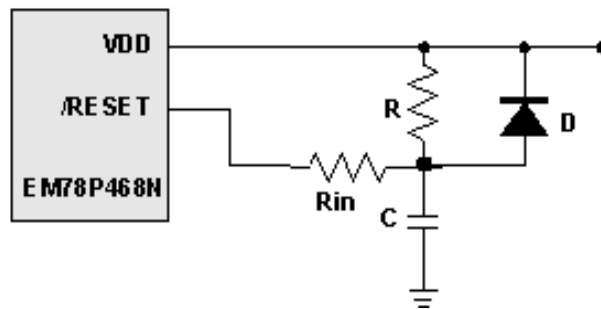

Fig. 6-10 External Power-on Reset Circuit
This circuit implements an external RC to produce a reset pulse (see Fig. 6-10). The pulse width (time constant) should be kept long enough to allow VDD to reach minimum operation voltage. This circuit is used when the power supply rise time is slow. Because the current leakage from the /RESET pin is  $\pm 5\mu\text{A}$ , it is recommended that R should not be greater than 40K. In this way, the voltage at Pin /RESET is held below 0.2V. The diode (D) acts as a short circuit at power-down. The capacitor, C, is discharged rapidly and fully. Rin, the current-limited resistor, prevents high current discharge or ESD (electrostatic discharge) from flowing into Pin /RESET.